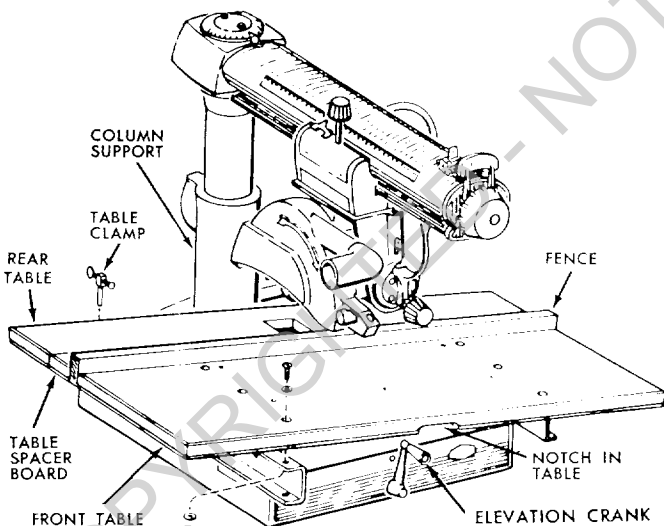

Figure 8a
The saw should be placed on a suitable sturdy work bench and the base positioned so that the elevation crank (figure 8a) is free to rotate. The base of the saw must be mounted flush to a flat surface on the work bench to prevent distortion of the saw base. The nuts, screws, and washers which attach the wooden shipping skids to the saw base may be used to secure the saw base to the work bench.
1. Turn elevation crank (figure 8a) to raise motor from clamping brackets.
5. Place front table on channels with notch in table forward and down as shown in figure 8a.
6. Align holes in front table with three forward mounting holes in channels. See figure 8a.